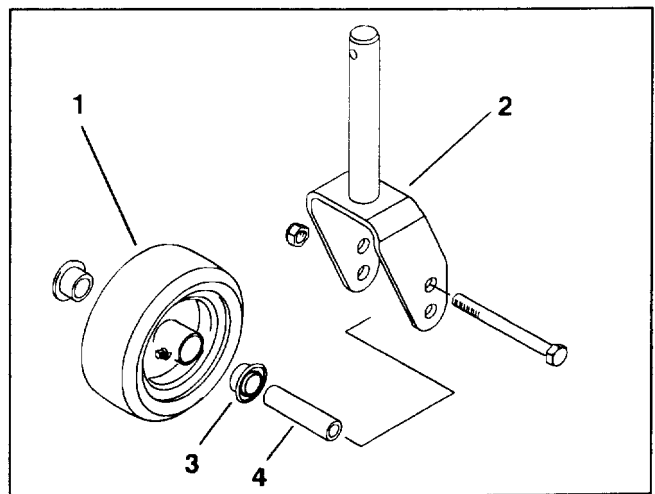
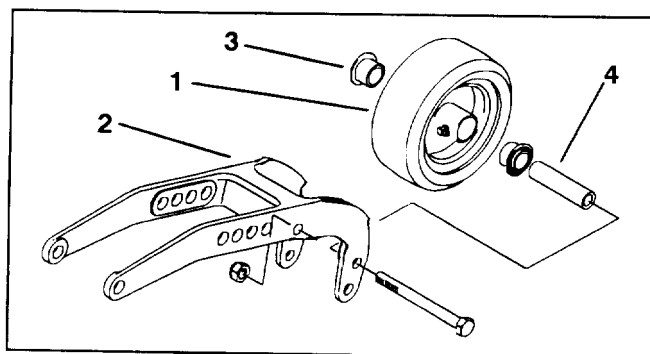

Figure 71
Figure 72
SERVICING CASTOR WHEELS AND BEARINGS (Fig. 71–72)
1. Remove locknut from capscrew holding castor wheel assembly between front castor fork (Fig. 71). or rear castor pivot arm (Fig. 72) Grasp castor wheel and slide capscrew out of fork or pivot arm.